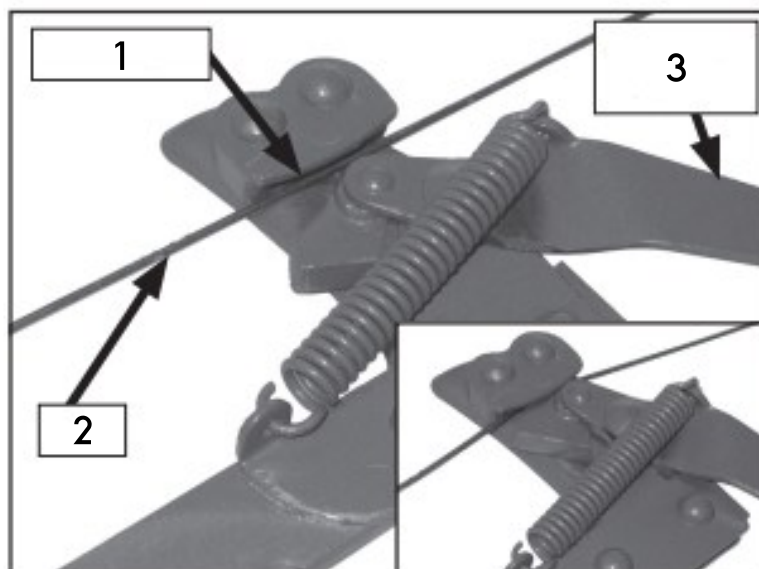

Figure 2
1. Open the jaws with the help of the lever of the clamping jaws and thread the wire as shown (Fig. 2).
2. Close the clamping jaw to clamp the fence wire (Fig. 2). Make sure that the wire is clamped in a safe way by trying to pull it out of the fence wire body. Should the wire not be clamped safely and slip through the clamping jaw, produce more clamping force by applying the lever of the clamping jaws.